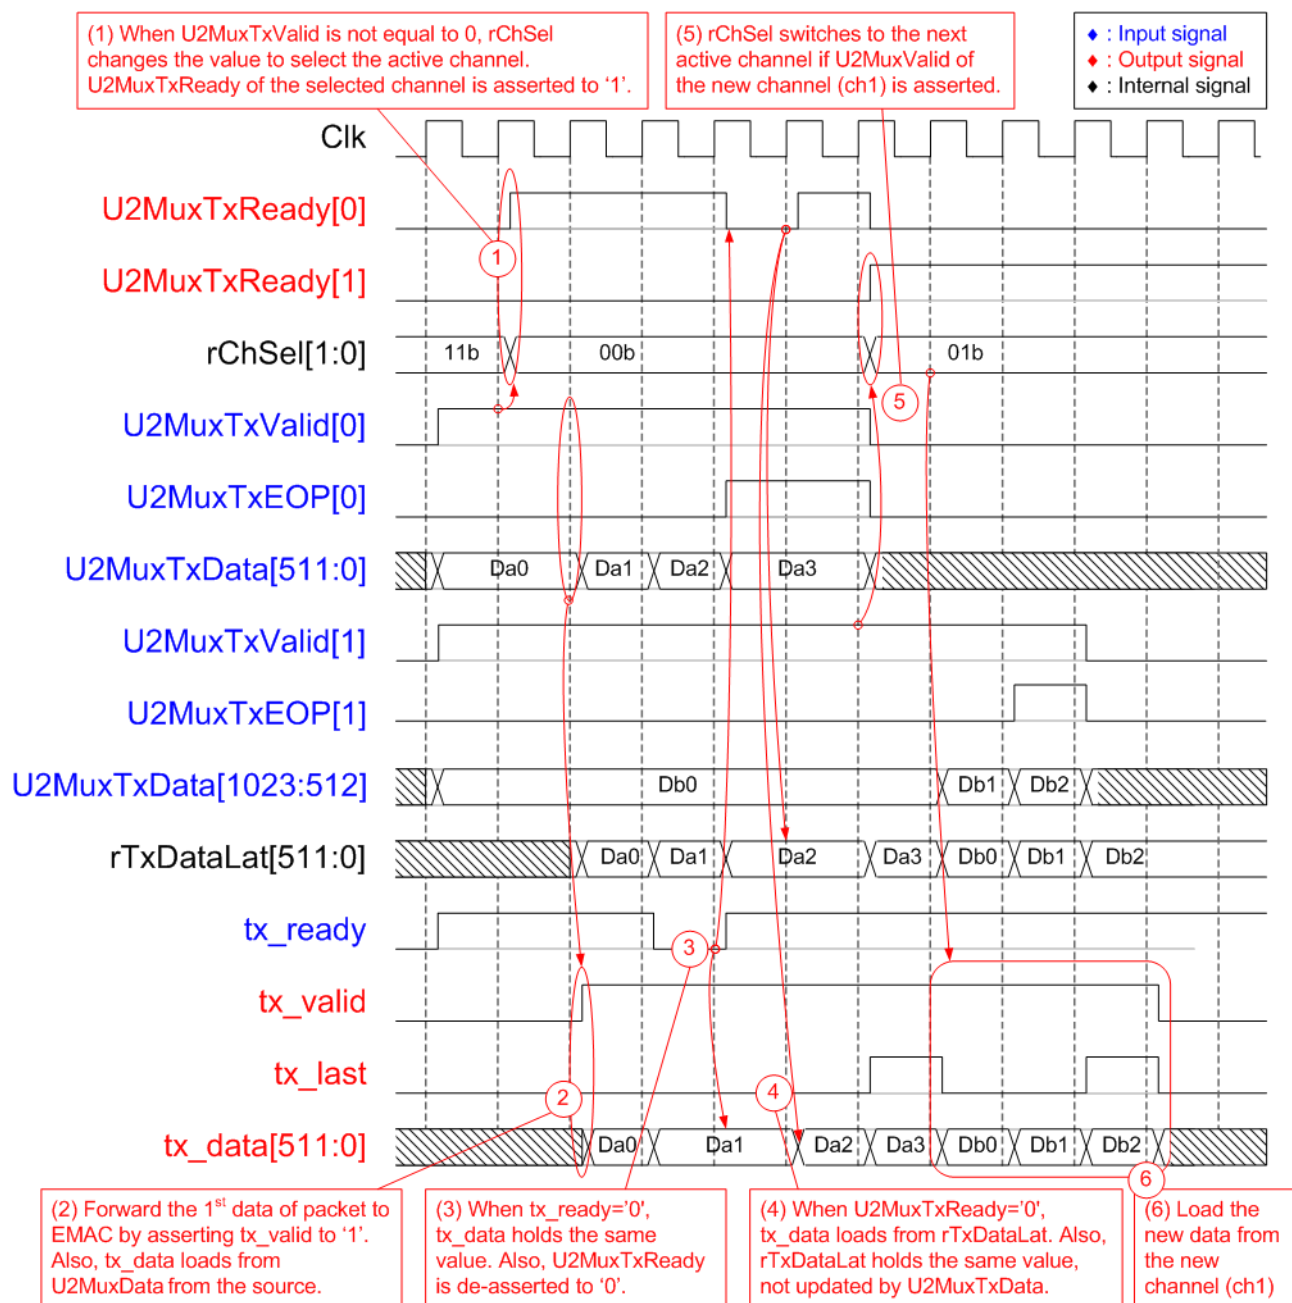

Figure 2-5 TxEMACMux4to1 timing diagram
The system consists of four TOE100G-IPs which share the same EMAC. Therefore, TxEMACMux4to1 is designed to transfer the transmitted packet from four TOE100G-IPs to one EMAC. The core signal inside this module is rChSel that is applied to select one active TOE100G-IP module from four modules. Timing diagram of this module is displayed in Figure 2-5.
1. If current channel (Ch#3) does not transfer the data and the new channel requests to transfer data by asserting U2MuxTxValid to '1', rChSel (the signal to indicate the active channel) will switch the value to the new channel. In Figure 2-5, there are two channels that send the request at the same time. The selected channel will be the nearest channel of the order 0 -> 1 -> 2 -> 3 -> 0. Therefore, Ch#0 is higher priority than Ch#1 when the current channel is 3. U2MuxTxReady of the selected channel (Ch#0) is asserted to '1' to accept the first data.
5. After accepting the final data of a packet from the active channel, the next active channel is scanned. If U2MuxTxValid of remaining channels is asserted, rChSel will update the value following the rule (0 -> 1 -> 2 -> 3 -> 0). In Figure 2-5, the next active channel is Ch#1, so rChSel is set to 01b to accept the data from Ch#1.